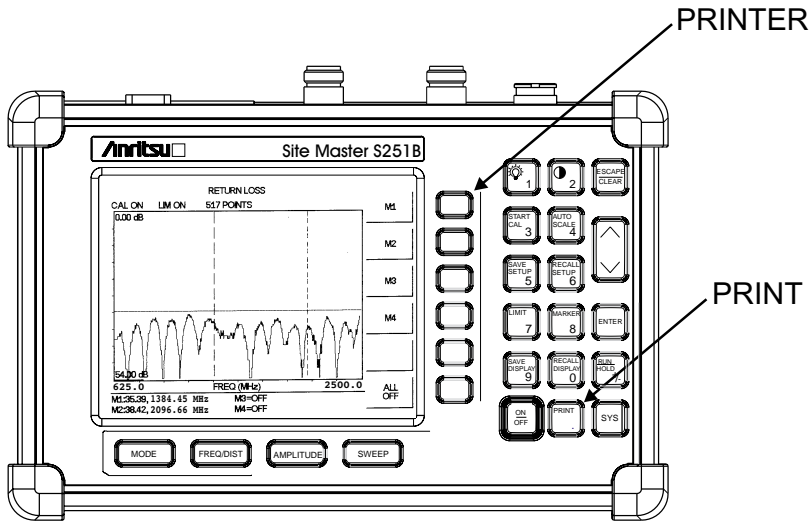

Figure 3-15. *PRINTER Soft Key and PRINT Key*
- Step 5.** Press the **PRINT** key. (Figure 3-15).